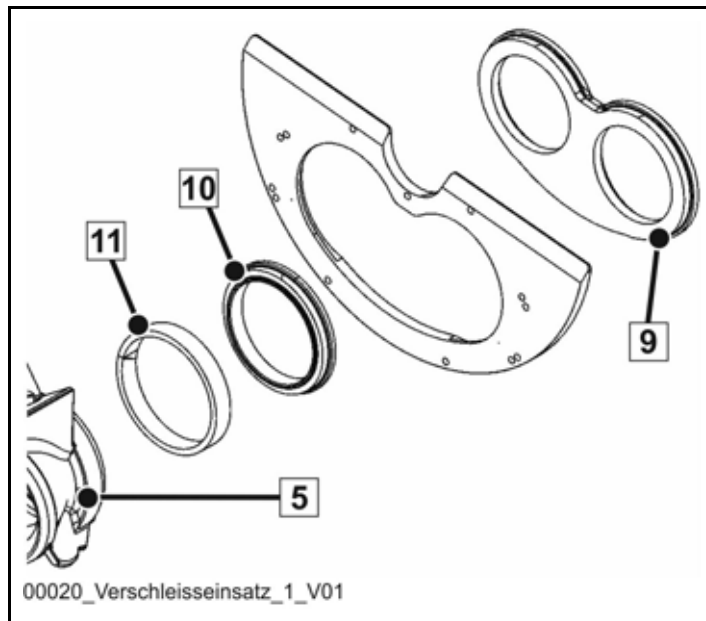
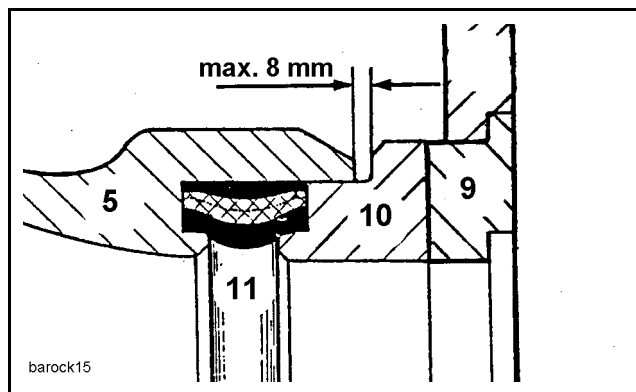

Fig. 319
Fig. 320
- Check the distance between the cutting ring (10) and the swivel head (rock) (5) (Fig. 319) and (Fig. 320) after each rotation. If it is more than 8 mm, the cutting ring is no longer guided securely in the rock and must be replaced.
- When replacing the cutting ring, check the condition of the wearing insert (9) and pressure spring (11) (Fig. 320).